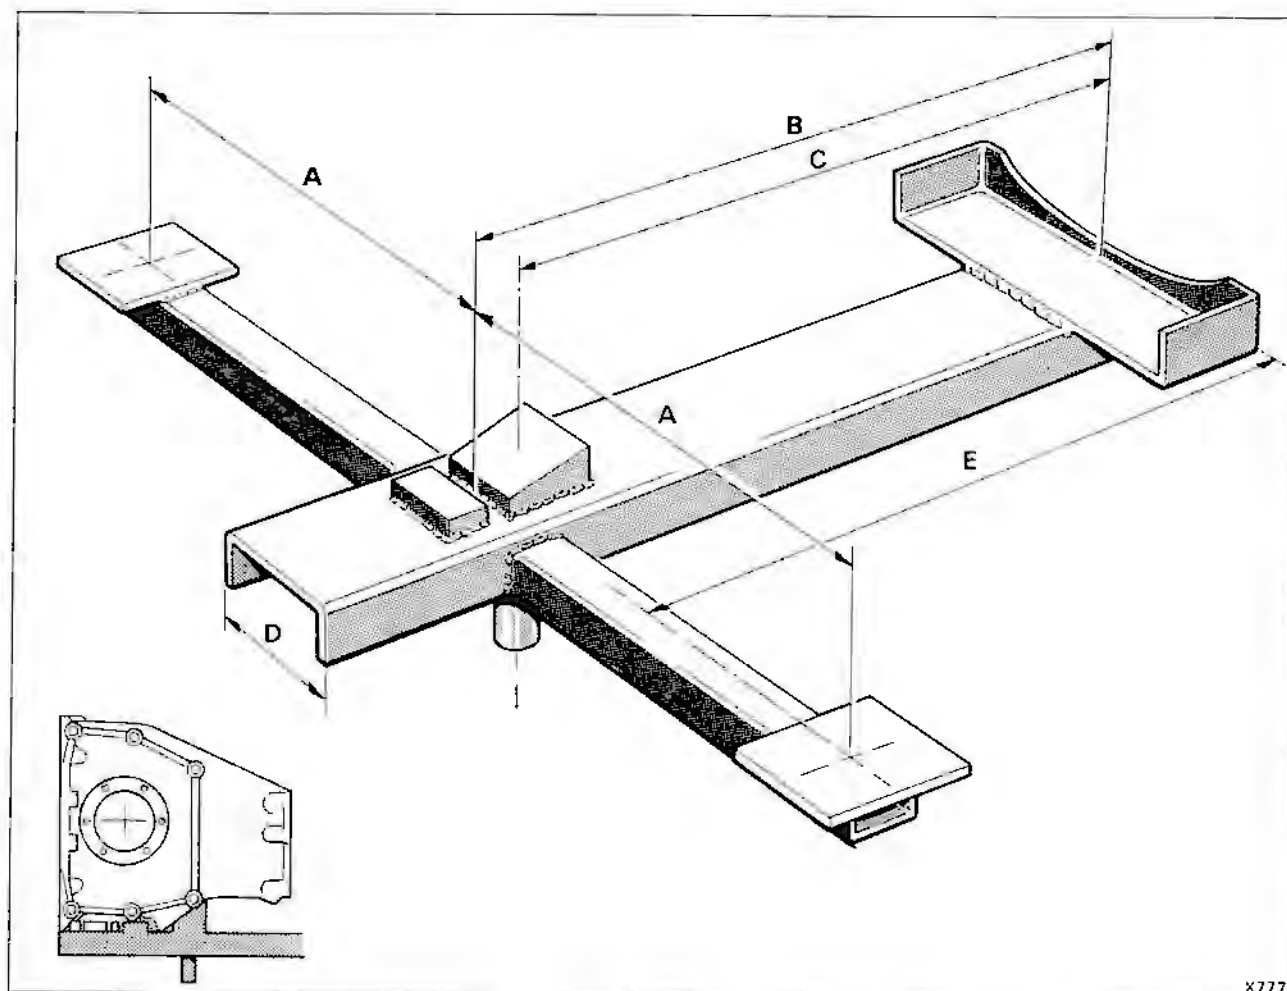

Fig. H8-2 Rear sub-frame removal jig general dimensions
19. Fit a frame similar to that shown in figure H8-2 onto a trolley jack. Raise the jack and position the frame beneath the sub-frame with the central pad beneath the final drive casing. The two arms should support the trailing arms and the forward pan should support the rear crossmember.